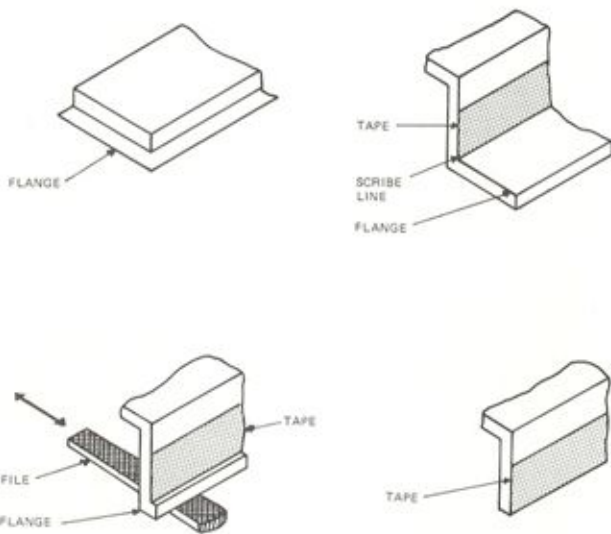

Figure 34
- In a situation where the scribe line falls in a right angle corner, such as the running board flange, tape the vertical surface at a right angle to the flange. Cut the flange off next to the tape. File off the remaining fiberglass level with the tape. (Refer to Figure 34)